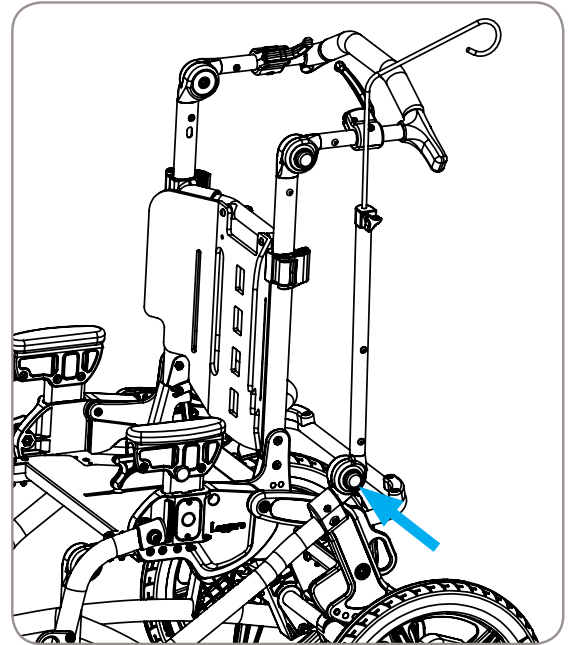

Figure 32
1. Press and hold the button on the outside of the adjustment ratchet, reference Figure 32.